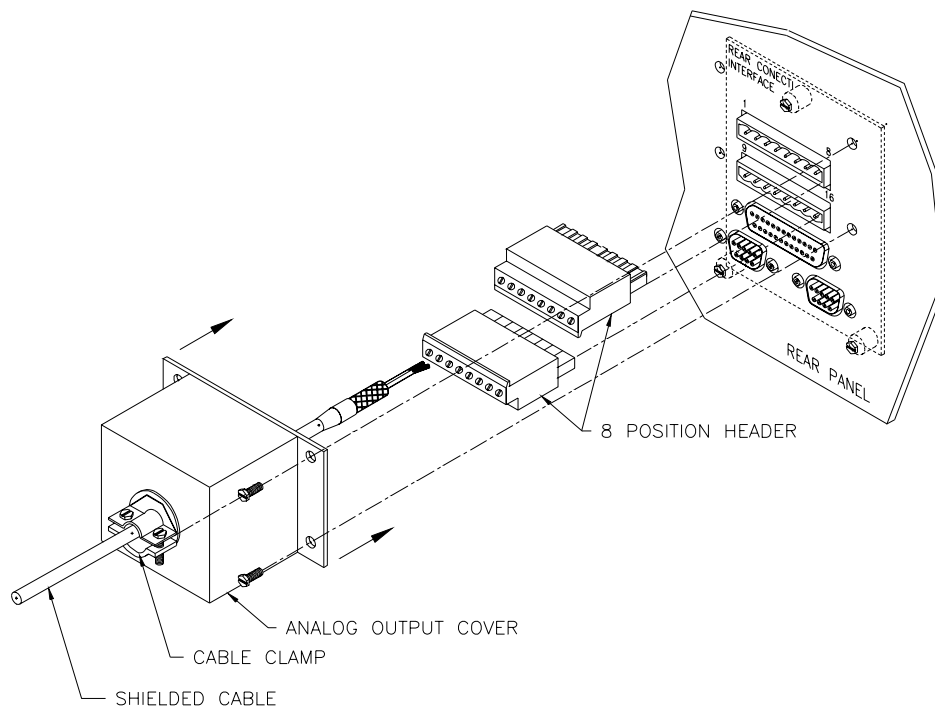

Figure 2-4. Exploded View of Analog Output Cover Installation
1. Pass the shielded cable through the cable clamp on the analog output cover, as shown in Figure 2-4.